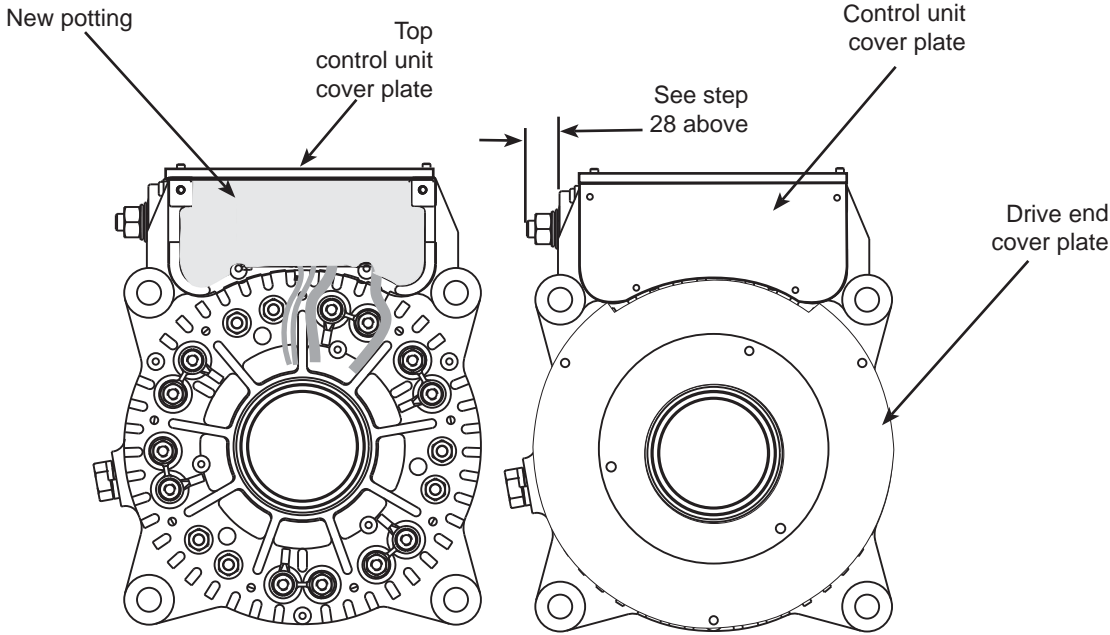

Figure 4 – Replacing Control Unit Assembly and/or B+ Terminal on N1388 Alternator
28. If B+ terminal was replaced, re-install external hardware. Use a suitable adhesive such as Loctite® 222 on the middle of stud threads. Screw stud into terminal until only 11/16" is protruding from surface of terminal. See Figure 4.